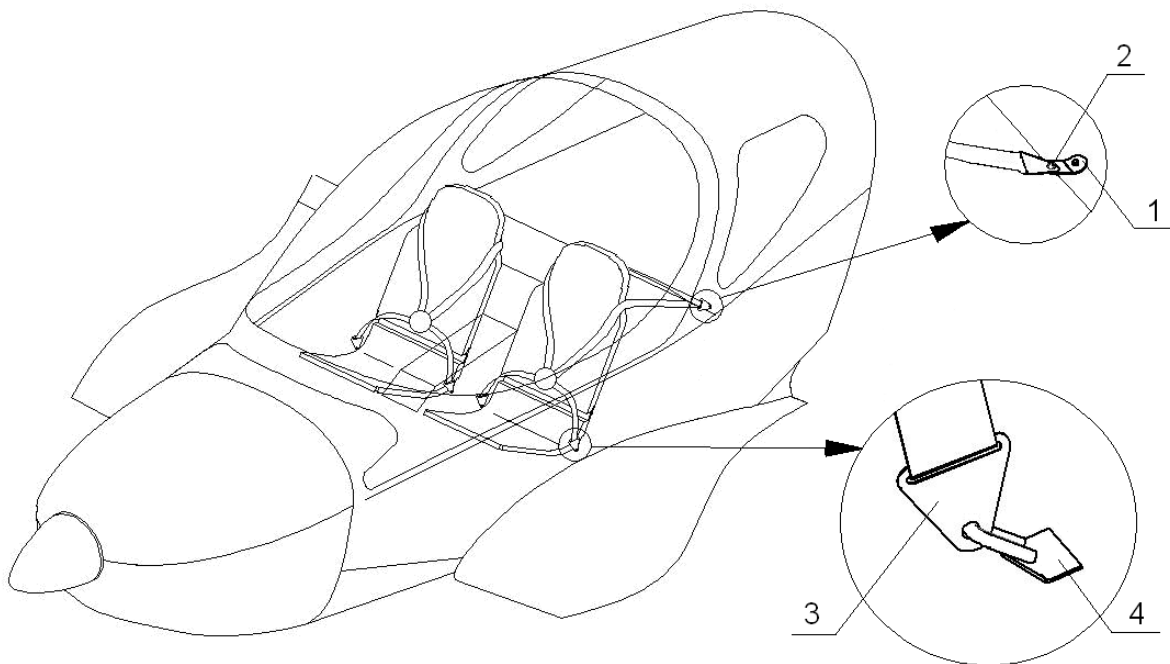

Fig. 7-2
(a) Remove shoulder harnesses from the top attachment brackets (1) in luggage compartment (see Fig. 7-2). Remove the nut with distance washer and the bolt (2).
(a) Install the side harnesses (see Fig. 7-2) – put snap-hooks (3) into side attachment brackets (4) on the gear channel.